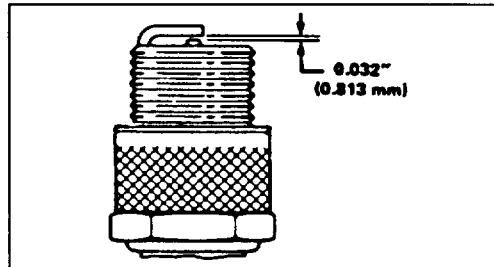

Figure 13
3. Set air gap at 0.032" (0.81 mm) (Fig. 13). Install correctly gapped spark plug and gasket seal. Tighten plug firmly to 10 ft-lb (13.6 N-m).